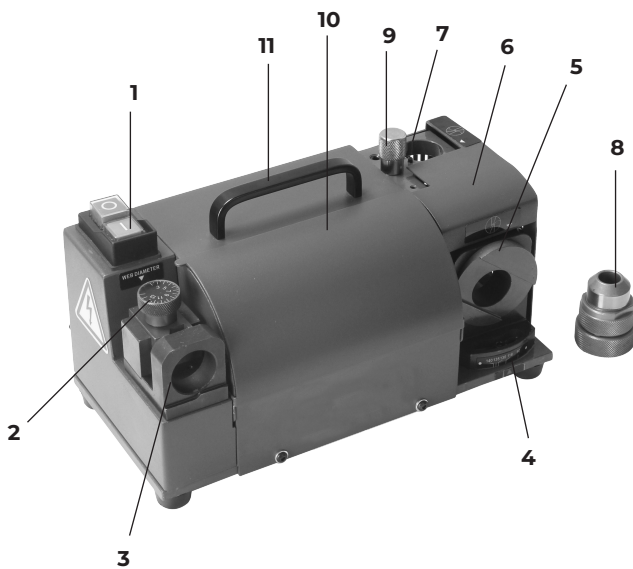

Fig 1
1. Set the selector (A) to the diameter of the drill bit using the indicator (for an 8.2 mm drill bit, set the mark between 8 and 8.5 mm).
2. Insert the drill chuck with the drill bit into the drill bit length adjustment housing (3 fig.1) and check that it is locked in place.
3. Bring the drill bit (B) to the stop.
4. Turn the drill bit (B) to the right.
6. Tighten the drill chuck (C).
- If the tip height is less than 10 mm, add 1 to 2 graduations on the selector (2 fig.1).
- If the cutting height of the drill bit is different from that of a normal drill bit, check that it is parallel and then select the diameter on the selector (2 fig.1).
1. Adjust the tip angle adjuster (A) according to the drill (95° to 135°).
2. Start the machine by pressing «1» on the switch (1 fig.1).
3. Insert the drill chuck (B) into the sharpening hole in the cutting edge of the drill (5 fig.1), making the flats of the drill chuck and the hole coincide.
4. Sharpen by turning the drill chuck (B) from right to left until the sharpening noise disappears (make sure it is fully seated).
5. Remove the drill chuck (B) and turn the assembly through 180° and repeat the operation.